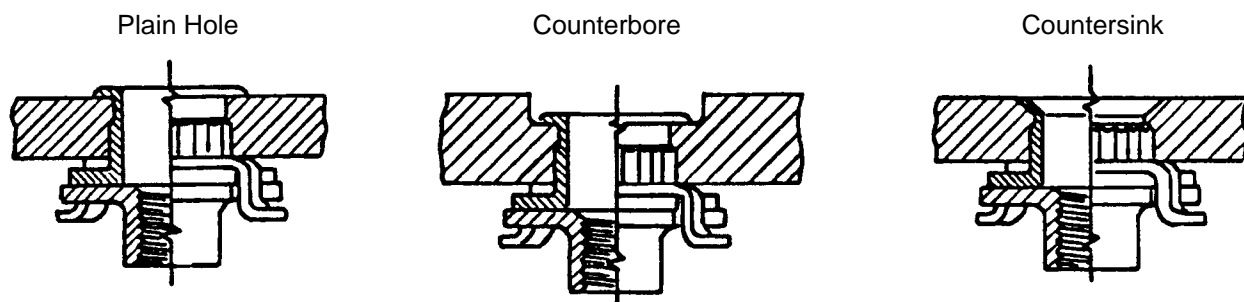

Figure 3 - Nut Plate - Installation Configurations
- 5.2.1.1 The nut plate hole shall be either plain, counterbored or countersunk, depending on the installation configuration specified on the engineering drawing. Refer to Figure 3 for a general description of the various installation configurations. Refer to section 5.2.2, section 5.2.3, section 5.2.4, or section 5.2.5 for the recommended hole preparation sequence and data applicable to the specified installation configuration.